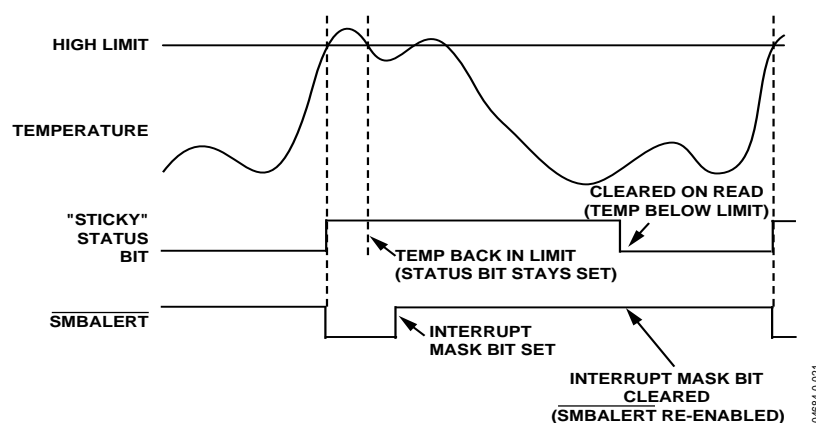

Figure 16. How Masking the Interrupt Source Affects  $\overline{\text{SMBALERT}}$  Output
7. Periodically poll the status registers. If the interrupt status bit is cleared, reset the corresponding interrupt mask bit to 0. This causes the  $\overline{\text{SMBALERT}}$  output and status bits to behave as shown in Figure 16.